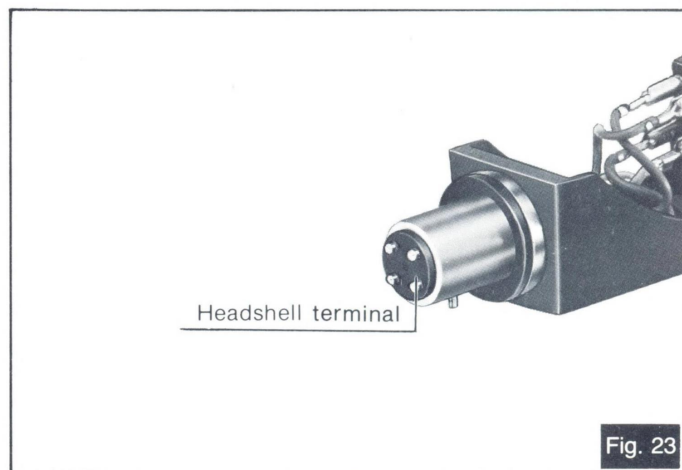

Fig. 23
- 6 **Wipe the headshell terminals from time to time. (See Fig. 23.)**